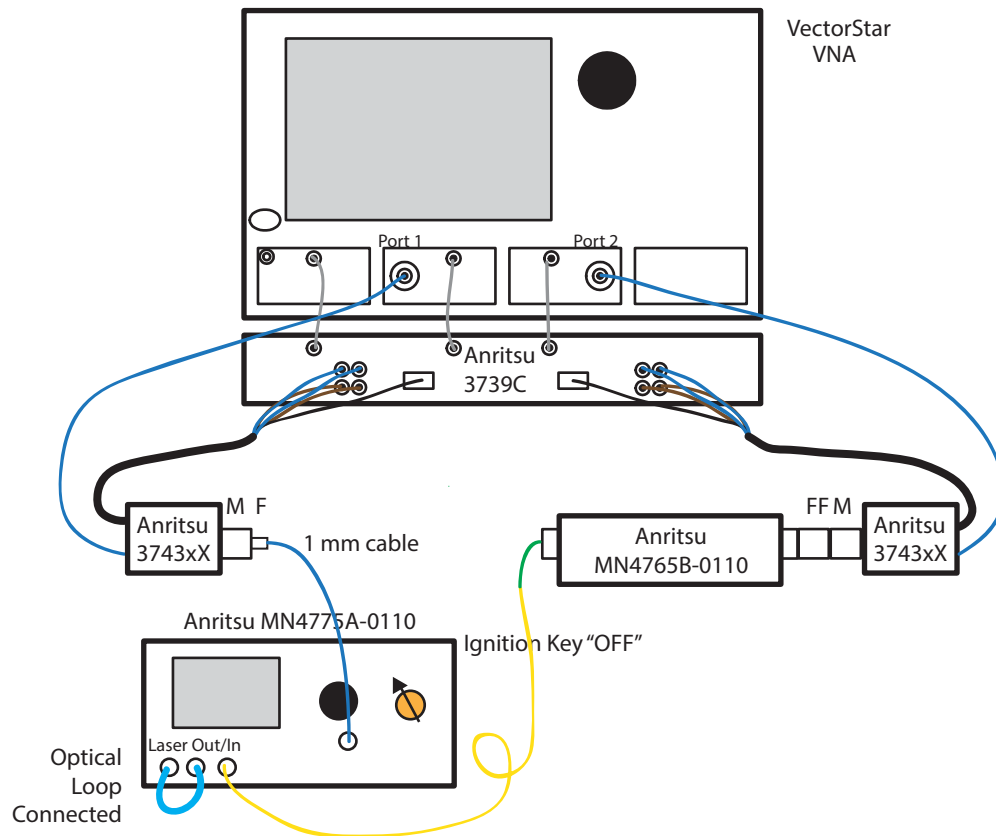

Figure 3-7. Optical Connection to MN4765B-0110
3. Connect **Yellow-colored** end of Optical Patch cable to MN4775A-0110 E/O Converter as shown in Figure 3-7.
4. Connect **Green-colored** end of Optical cable to MN4765B-0110 as shown in Figure 3-7.
5. Connect the VNA Port 1 to Anritsu MN4775A-0110 E/O Converter RF Input as shown in Figure 3-7.
6. Connect Anritsu MN4765B-0110 O/E Module Output to VNA Port 2 as shown in Figure 3-7.
8. Verify **Optical Loop** is in place on MN4775A-0110 E/O Converter as shown in Figure 3-7.